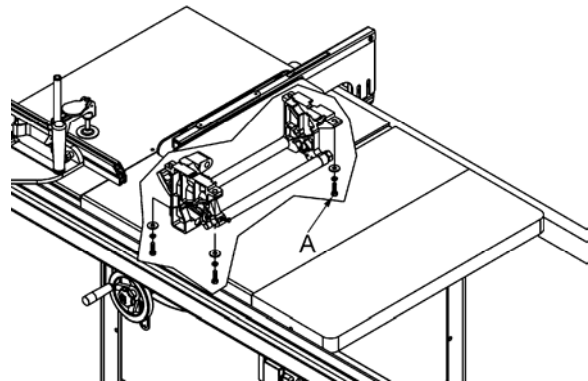

Figure 42
6. If they are not the same, loosen four hex head screws (A, Fig. 42) that hold the trunnions to the table. Two are shown in Figure 42.